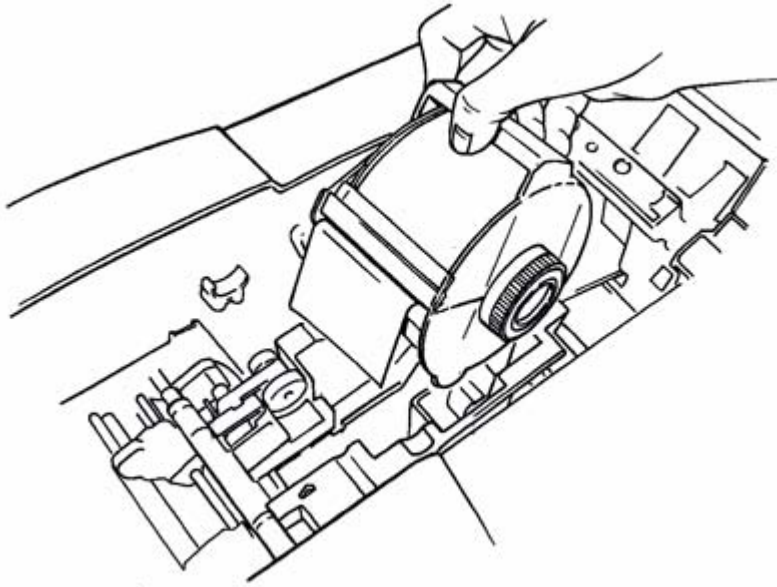

Figure 2-7. Installing a tape cartridge.
- Step 4:** Hold the tape cartridge by the handle with the feet pointed downward and parallel with the surface the printer is sitting on, as shown in Figure 2-7. Make sure the tape extends through the slot in the cartridge.